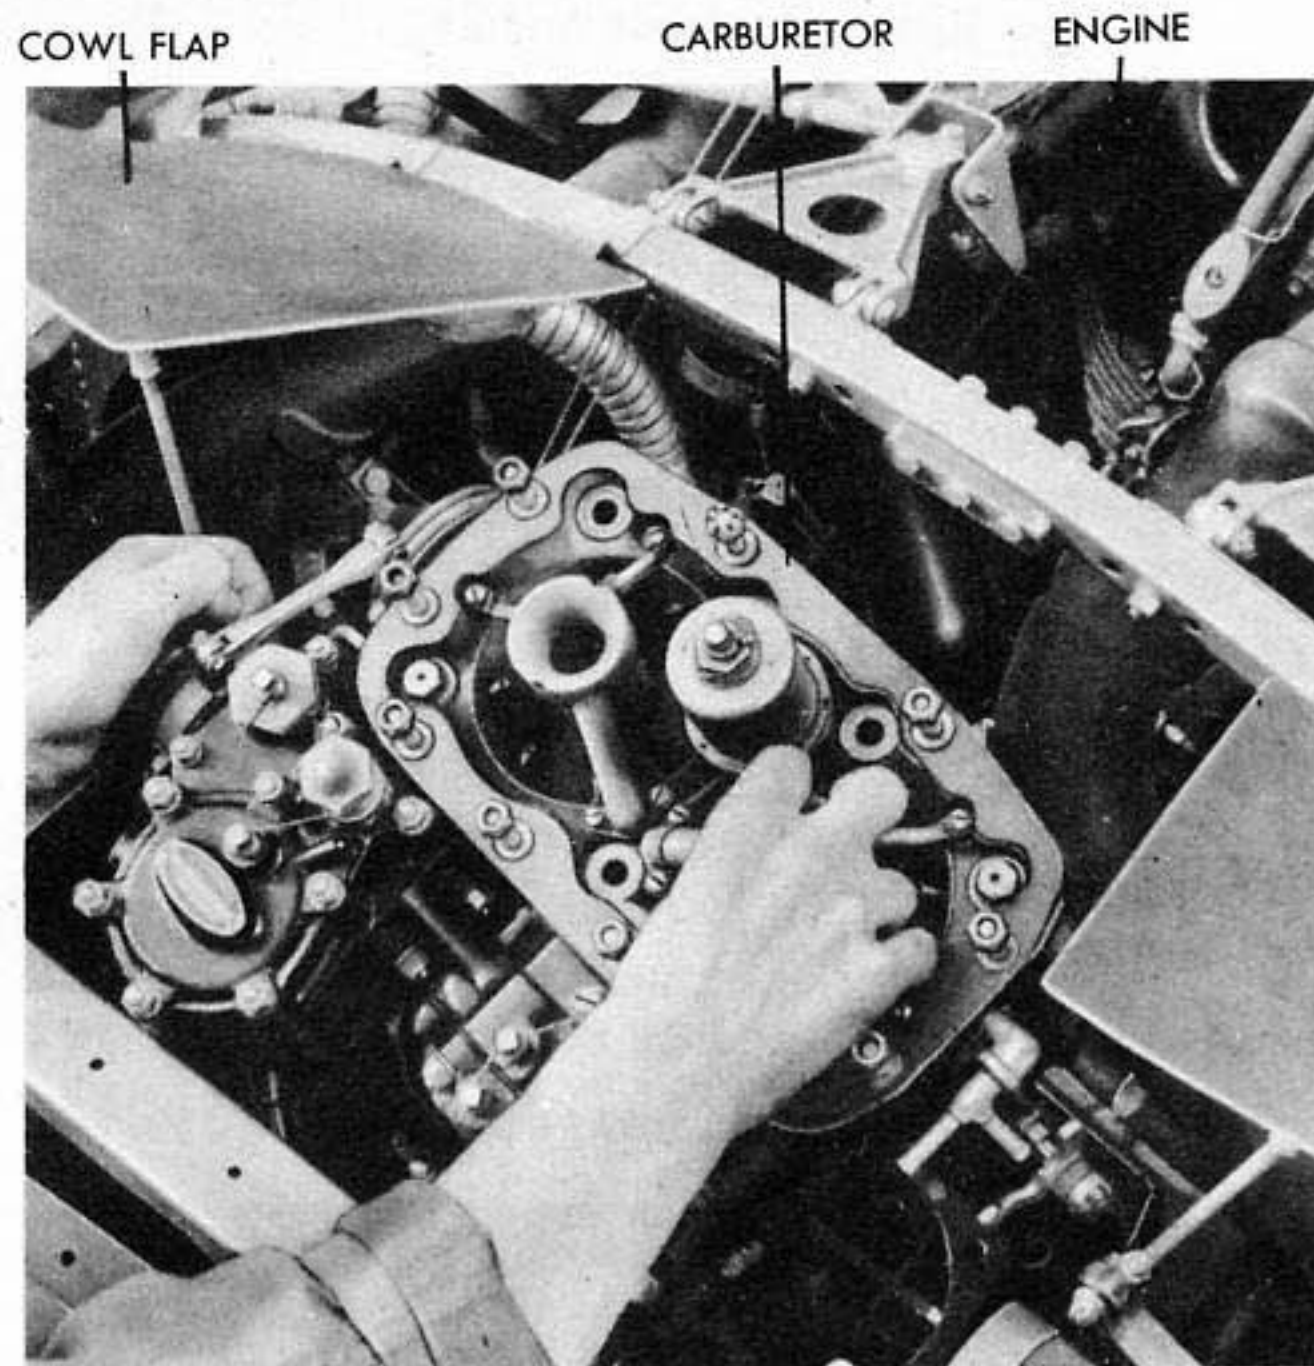

Figure 155 - REMOVING CARBURETOR
(19) DISASSEMBLY OF BLOWER DRAIN - Remove the cap screw and the small parts will automatically become separated. Slush in gasoline or an approved solvent.
(20) REMOVAL OF CARBURETOR. (See figure 155.)